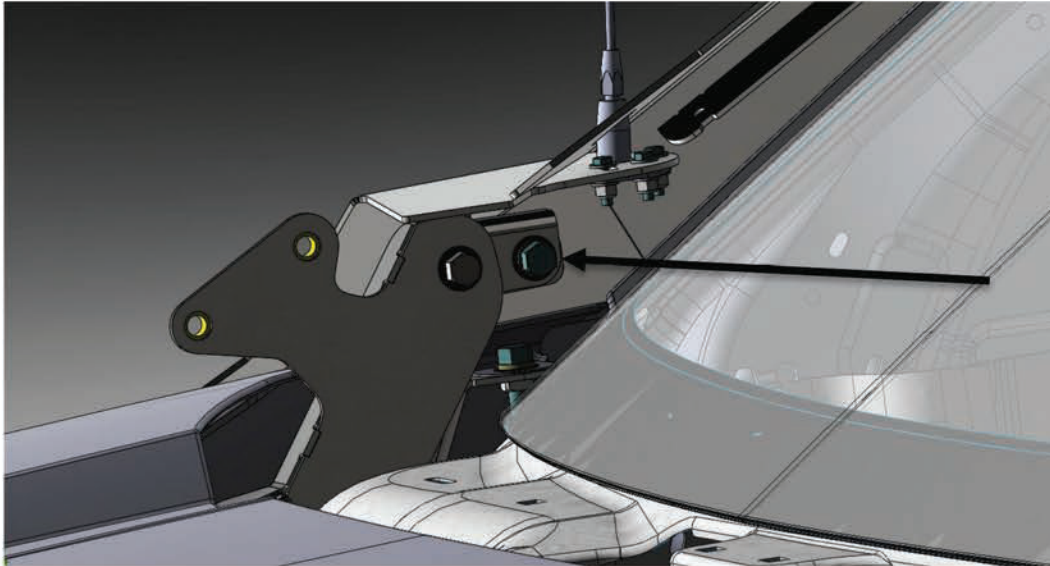

Fig 16
- With a friend on the other arm, lift the upper ViCowl assembly up over the hood and slowly lower the arms into position. The arm mounting bracket rest to the outside of the lower hinge and lined up with the rear bolt hole as shown in Fig 16.